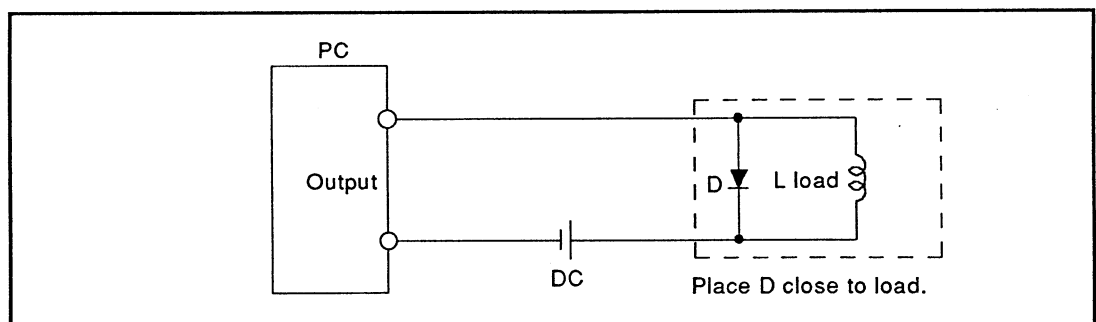

Fig. 6.9 Countermeasures Against DC Inductive Load Noise
- 2) In the case of DC inductive load, connect fly wheel diodes to both ends of the load. Connect these diodes closest to the load. The opposite withstanding diode voltage must be at least four times that of the load voltage (See Fig. 6.9).